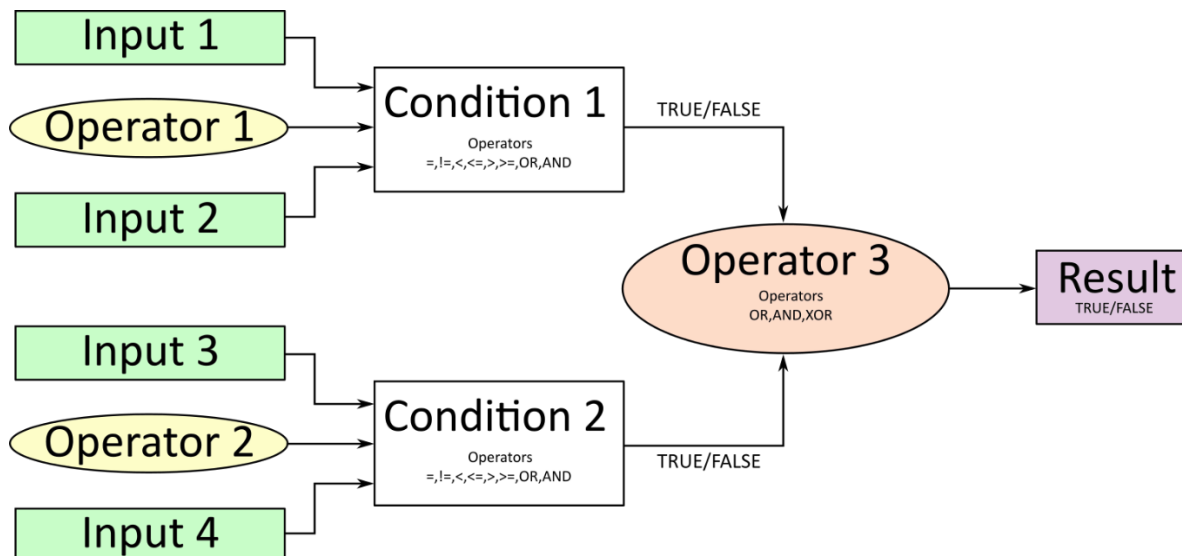

Figure 15 - Conditional Block Diagram
The Conditional Block compares up to four different input sources with different logical or relational operators. The result of each block can therefore only be **true** (1) or **false** (0). Figure 15 demonstrates the connections between all parameters.